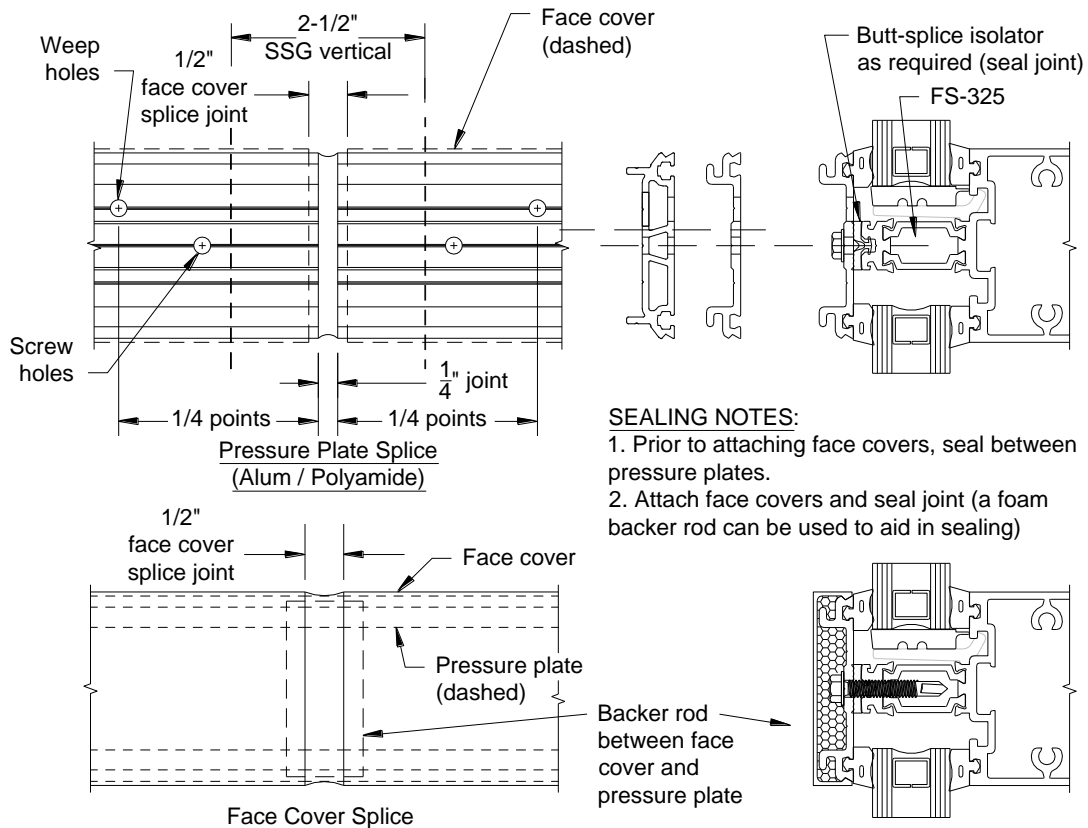

Figure 27: Pressure Plate/Face Cover Splicing & Sealing at SSG Mullions (Intermediate Horizontal Shown; Head & Sill Similar)
- 10.9 Just prior to installing vertical pressure plates, apply sealant to face of each horizontal zone plug. **See FIGURE 27.** Vertical pressure plates must be installed before horizontal pressure plates are applied. Pressure plate screws must be located 1 1/2" from horizontal & vertical
NOTE: Horizontal pressure plates and face covers run continuous over SSG mullions, not to exceed 3 lites in length. **See FIGURE 27** for splicing and sealing instructions.